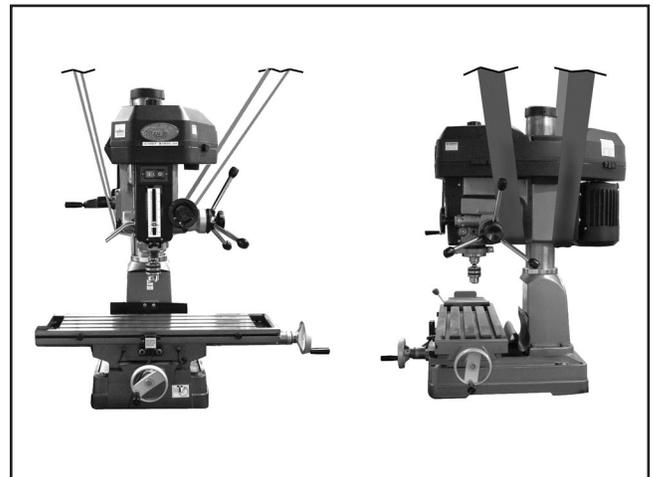

Figure 7. Proper lifting strap position.
3. Place lifting straps under the head of the machine, as shown in **Figure 7**, then connect them to a forklift. Be sure that the straps connect to the forklift far enough apart that the straps are not resting on the plastic pulley cover.